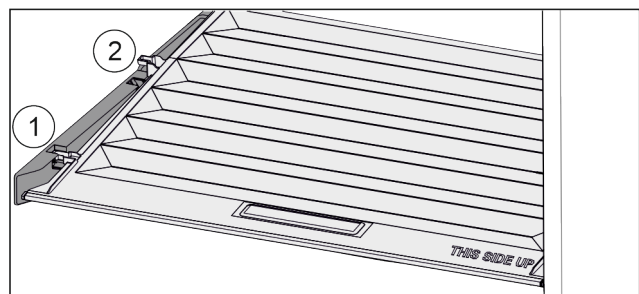

Fig. 64
- ▶ Pull the lid up at the front in the retaining parts to the opening Fig. 64 (1).
- ▶ Lift from the back and pull it up and out Fig. 64 (2).